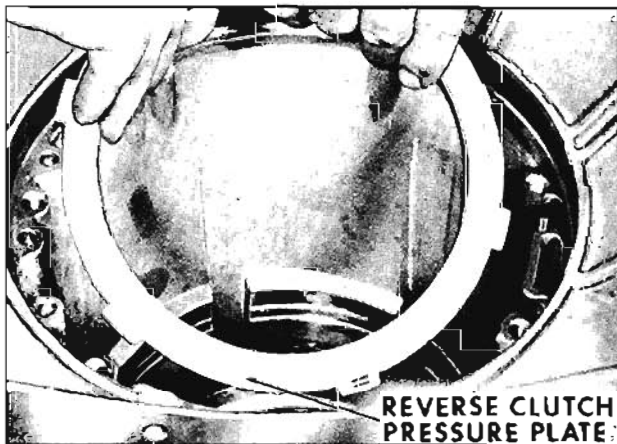

Fig. 6-423 Installing Pressure Plate
7. Install reverse clutch pressure plate with the identification mark being installed in the five o'clock groove in case. (Fig. 6-423)